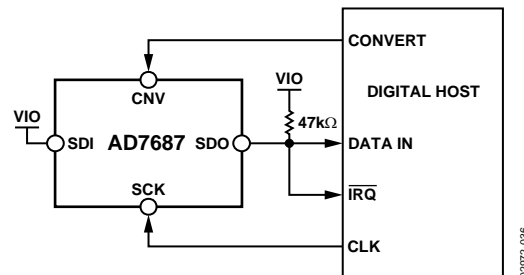
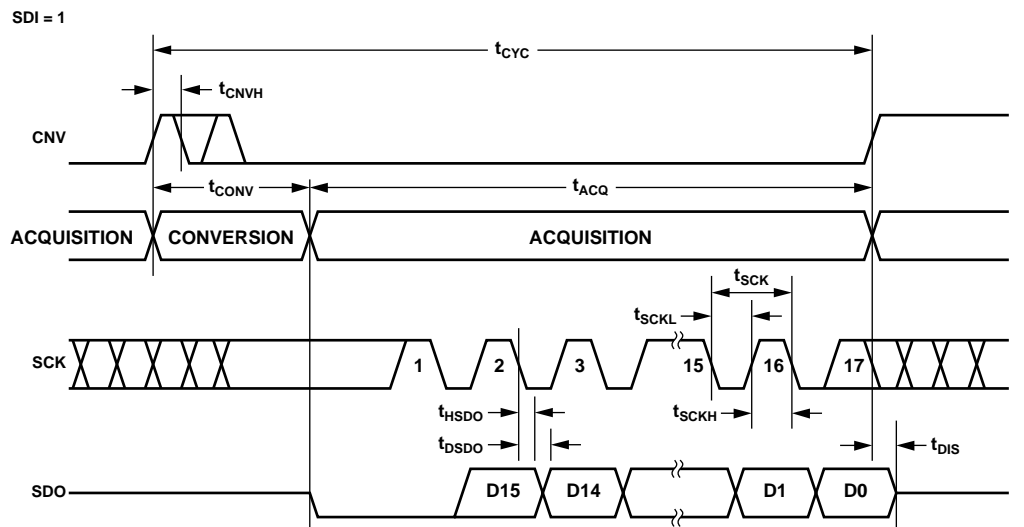
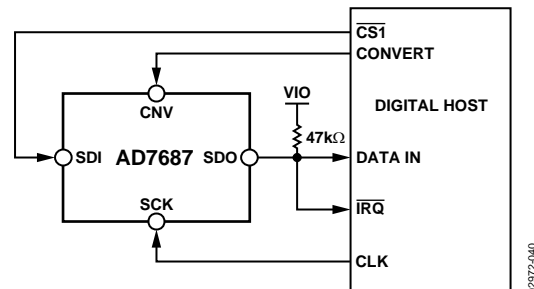
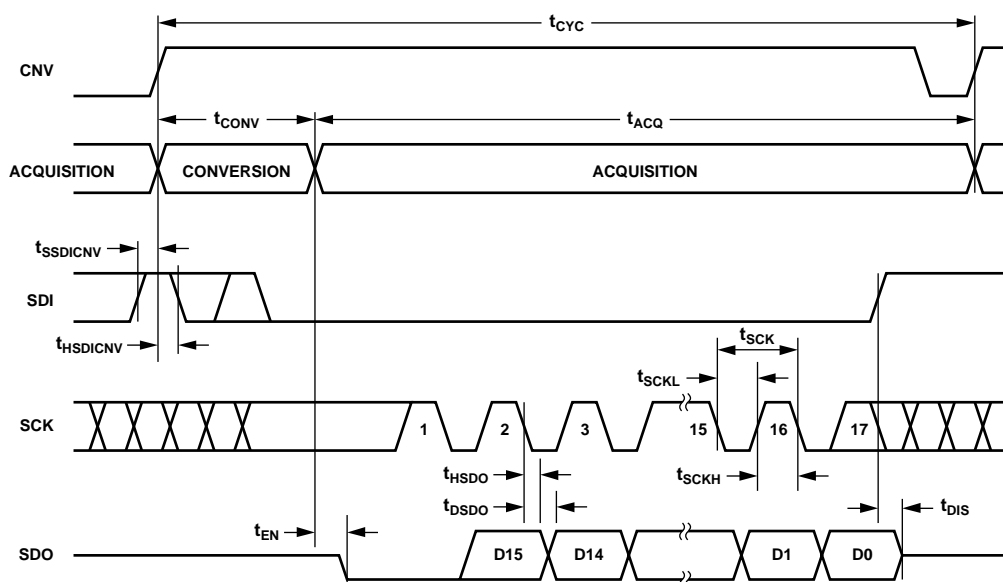

Figure 36. $\overline{\text{CS}}$ Mode, 3-Wire with BUSY Indicator Connection Diagram (SDI High)
Figure 37. $\overline{\text{CS}}$ Mode, 3-Wire with BUSY Indicator Serial Interface Timing (SDI High)
Figure 40. \overline{CS} Mode, 4-Wire with BUSY Indicator Connection Diagram
Figure 41. \overline{CS} Mode, 4-Wire with BUSY Indicator Serial Interface Timing
- In the \overline{CS} mode if CNV or SDI is low when the ADC conversion ends (see Figure 37 and Figure 41).
Figure 36 shows the connection diagram and Figure 37 gives the corresponding timing.
Figure 40 shows the connection diagram and Figure 41 gives the corresponding timing.